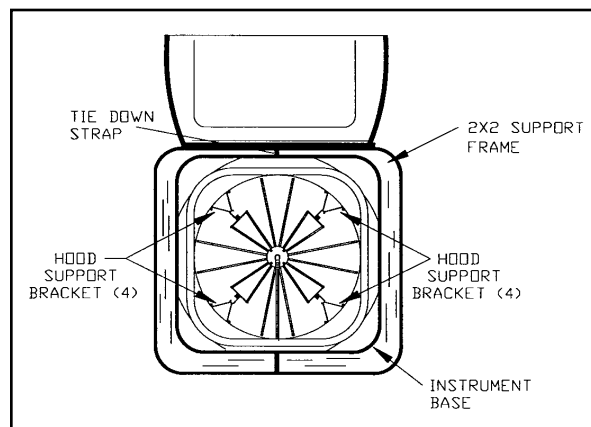

Figure 2—Top view of carry case
Before removing any parts from the carrying case, the arrangement of the various items should be noted so that repacking can be done easily. See Figures 2 and 3.
- Step 1: Remove the tie down straps at the two locations shown in Figure 2.